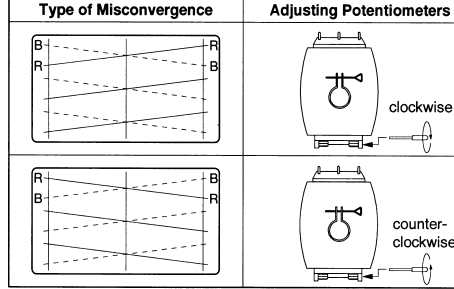

Fig. 6
- 2: When beam lines do not converge at left and right portion of the screen, adjust vertical cross (Xv) with the horizontal Differential Coil as shown in Fig. 6.